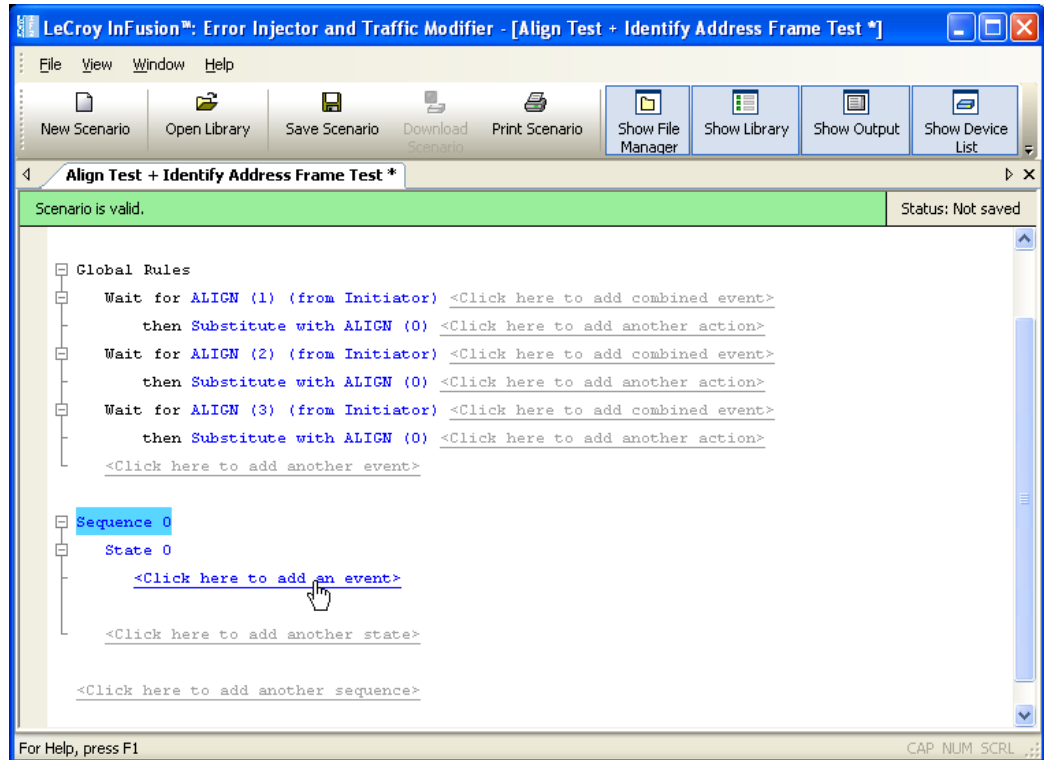

Figure 75 Example 7: Adding an Event for the First State
Step 4 In the State 0 area, click on the prompt to **add an event** (Figure 75).